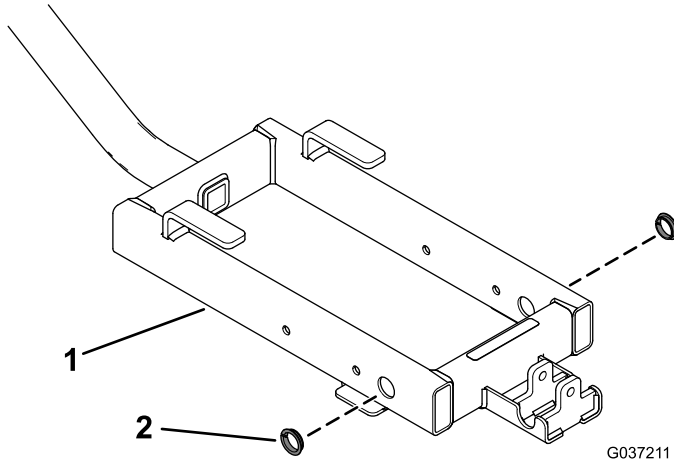

Figure 2
1. Install the 2 clip bushings to the spreader-mount frame (Figure 2).